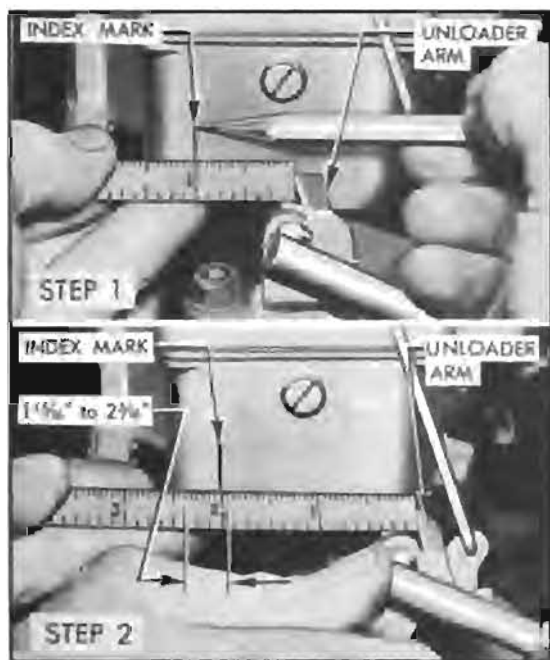

Figure 10-30—Checking Carter Accelerator Vacuum Switch Timing
3. While holding throttle valve fully closed, place a scale against choke unloader arm of throttle lever and make an index mark on float bowl at the one inch division on scale. See figure 10-30, step 1.
5. If switch is correctly timed, the scale will then read between $1\frac{5}{16}$ " and $2\frac{5}{16}$ " at mark on fuel bowl ($1\frac{5}{16}$ " to $1\frac{5}{16}$ " travel of arm). See figure 10-30, step 2.